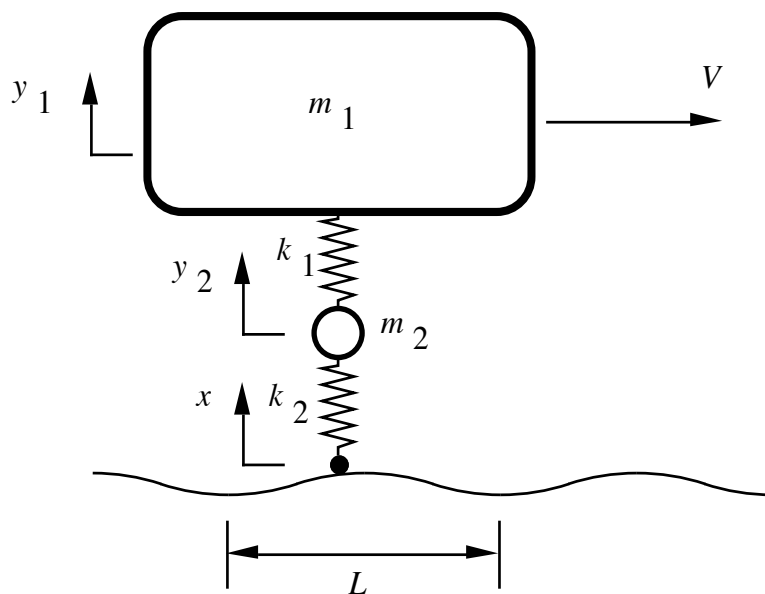

Fig. 7
*7. Figure 7 shows a model of a caravan suspension. The mass of the caravan body is m_1 and that of the axle assembly is m_2 . The corresponding vertical displacements are y_1 and y_2 . The stiffness of the suspension springs and of the tyres are k_1 and k_2 respectively. Road roughness is represented by the displacement x of the bottom of the tyre spring as shown.